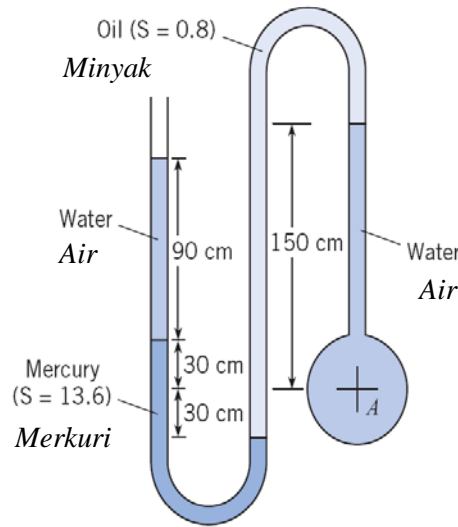

Figure Q.1.[a].
1. [a] Assume the temperature of 20 °C, find the pressure at the center of pipe A as shown in Figure Q.1.[a]. Suggest a method to reduce the total length of the manometer required.